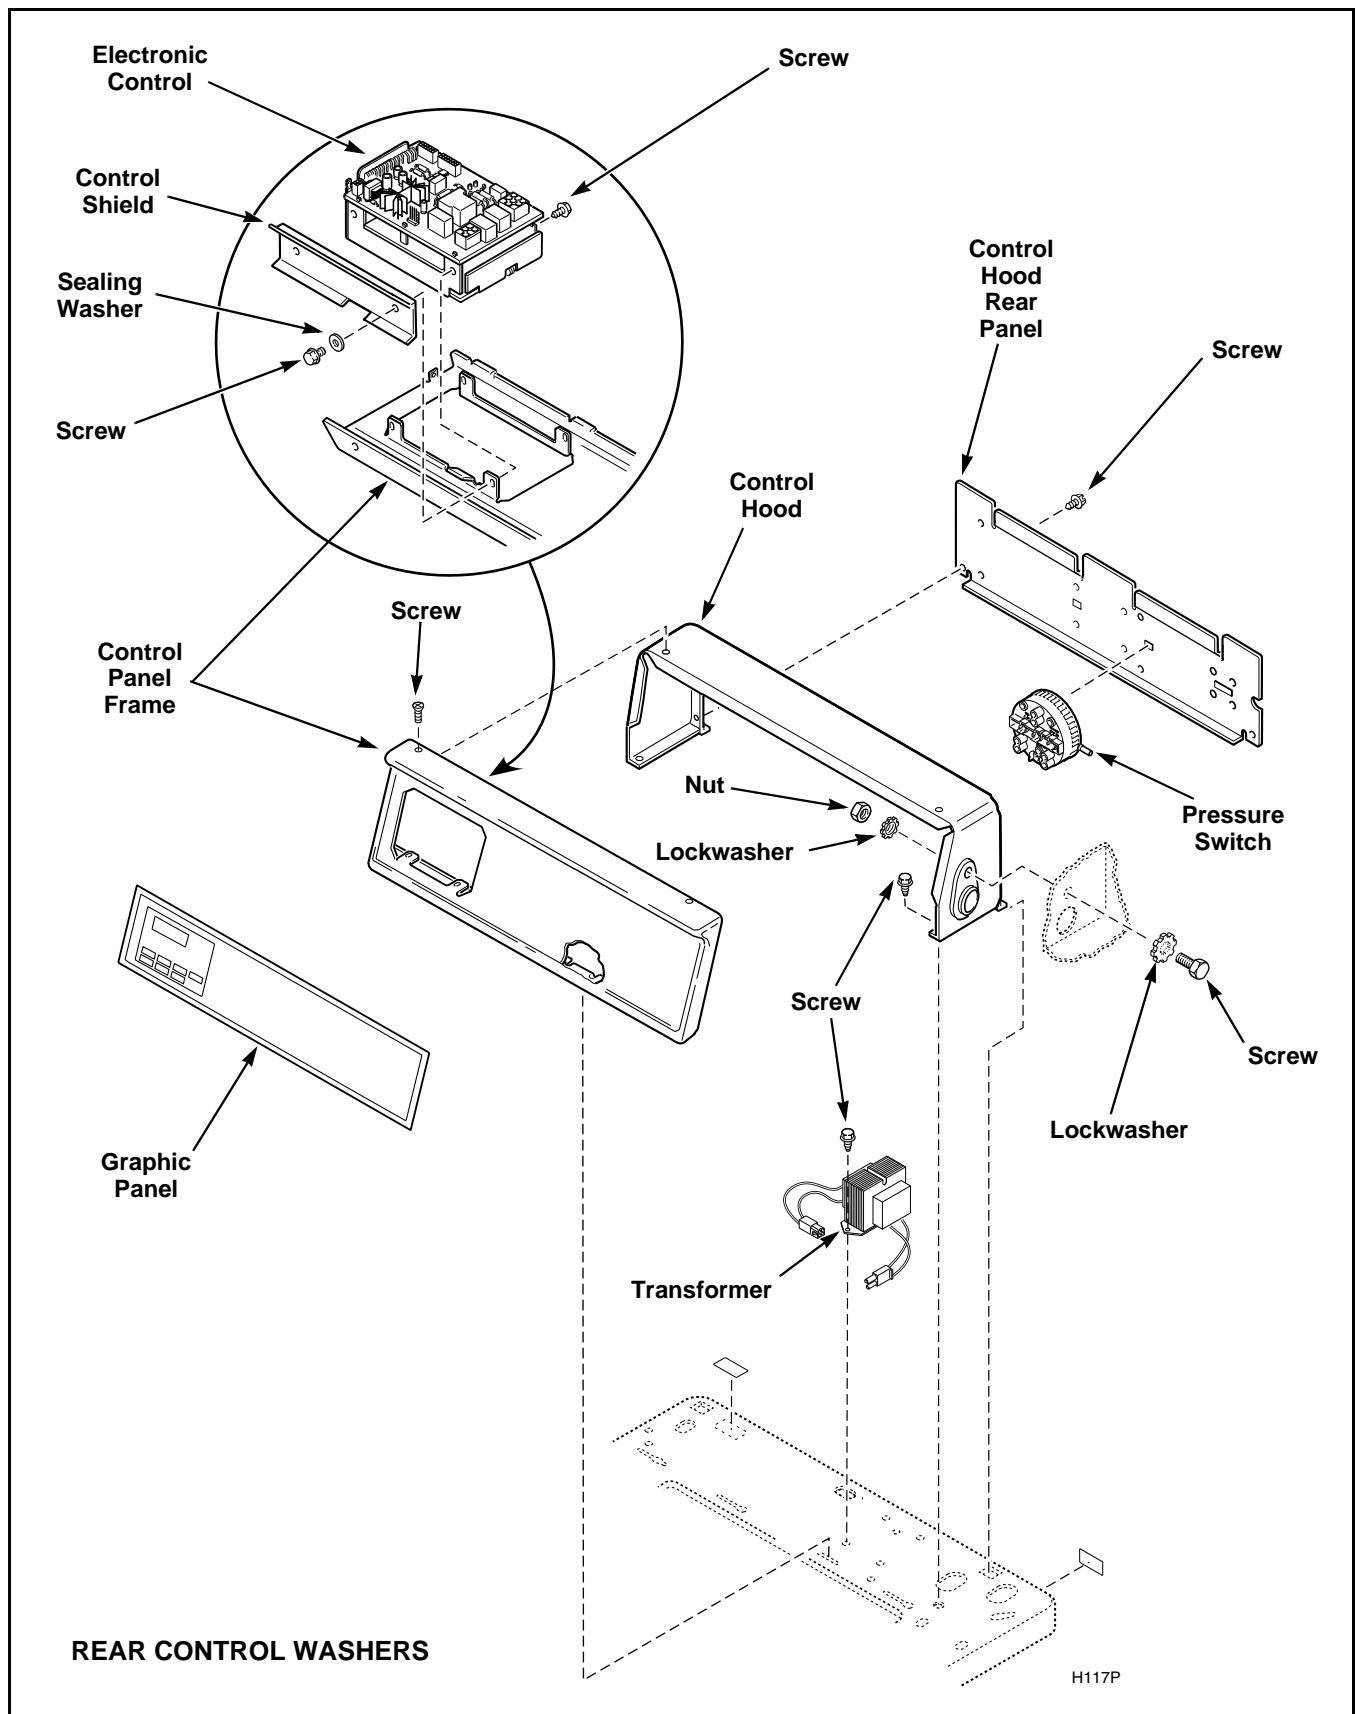

Figure 20
- c. Remove four screws holding electronic control assembly to backside of control panel. Refer to *Figure 20* or *21*.
- e. While holding new control by its metal edges, place control in opening of control panel and fasten control down with four screws. Refer to *Figure 20* or *21*.
**NOTE:** For proper control alignment, tighten the top two screws first then tighten the bottom screws. *Figure 20* or *21*.
- (1) Once panel overlay is fitted to the front of control panel frame, carefully peel protective backing from the left end of panel overlay and press into place.
- (2) Remove rest of protective backing from panel overlay and press overlay into place on control panel assembly.
- (3) While holding control by its metal edges, place control in opening of control panel and fasten control down with four screws. Refer to *Figure 20*.
**NOTE: For proper control alignment, tighten the top two screws first then tighten the bottom screws. Refer to *Figure 20*.**
- (4) Follow wiring diagram and reconnect wires to control.
- (5) Reinstall control panel.